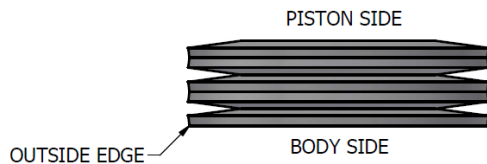

Figure 17 – Spring Stack Arrangement
- 11.18 Stack the spring washers, alternating dish up and dish down. See Figure 17.